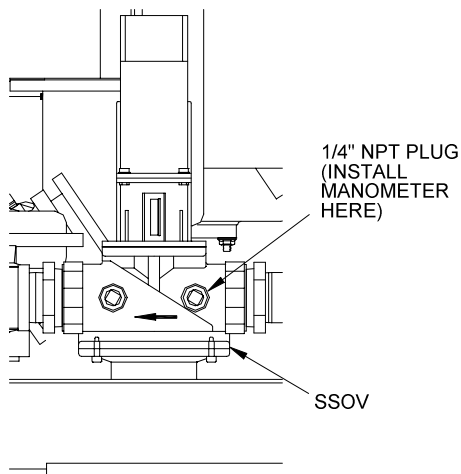

Figure 4.1
2. Remove the 1/4" NPT pipe plug from the port on the inlet side of the safety shut off valve (see Figure 4.1).